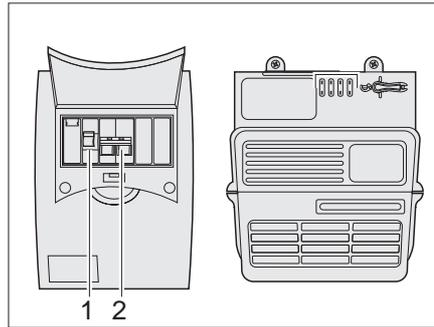

Fig. 103 230-V fuse box
The main fuse (Fig. 103,2) protects the 240 V input current with a max. of 10 A. In addition, a residual-current circuit-breaker (Fig. 103,1) is located in the fuse box.
- Switch the 240 V safety cut-out (see Fig. 103) and the main switch battery (see Fig. 96) on and off briefly in order to interrupt the current flow.